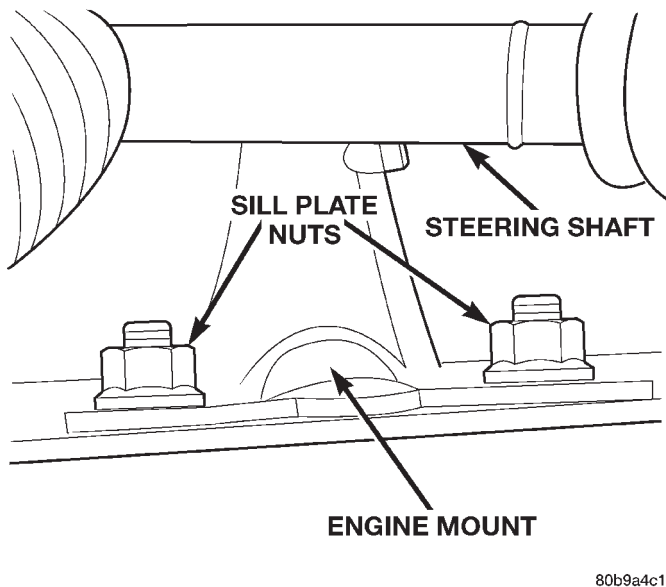

Fig. 14 Right Engine Mount Sill Plate Nuts
(4) Remove the oil filter adaptor retaining bolt and remove oil filter and adaptor from the vehicle.
(5) Remove the engine mount upper sill plate nuts (Fig. 14).
(6) Remove the engine mount throughbolt nut only. Leave the bolt installed at this time.
(7) Position a jack stand and raise the weight off the right engine mount.
(8) Remove the (4) trackbar support bracket retaining bolts and remove the bracket.
(9) Remove the (4) engine mount bracket bolts from the engine block.
(10) Remove the remaining engine mount lower sill plate bolt.
(11) Remove the engine mount through bolt.
(12) Remove the right engine mount from the vehicle.